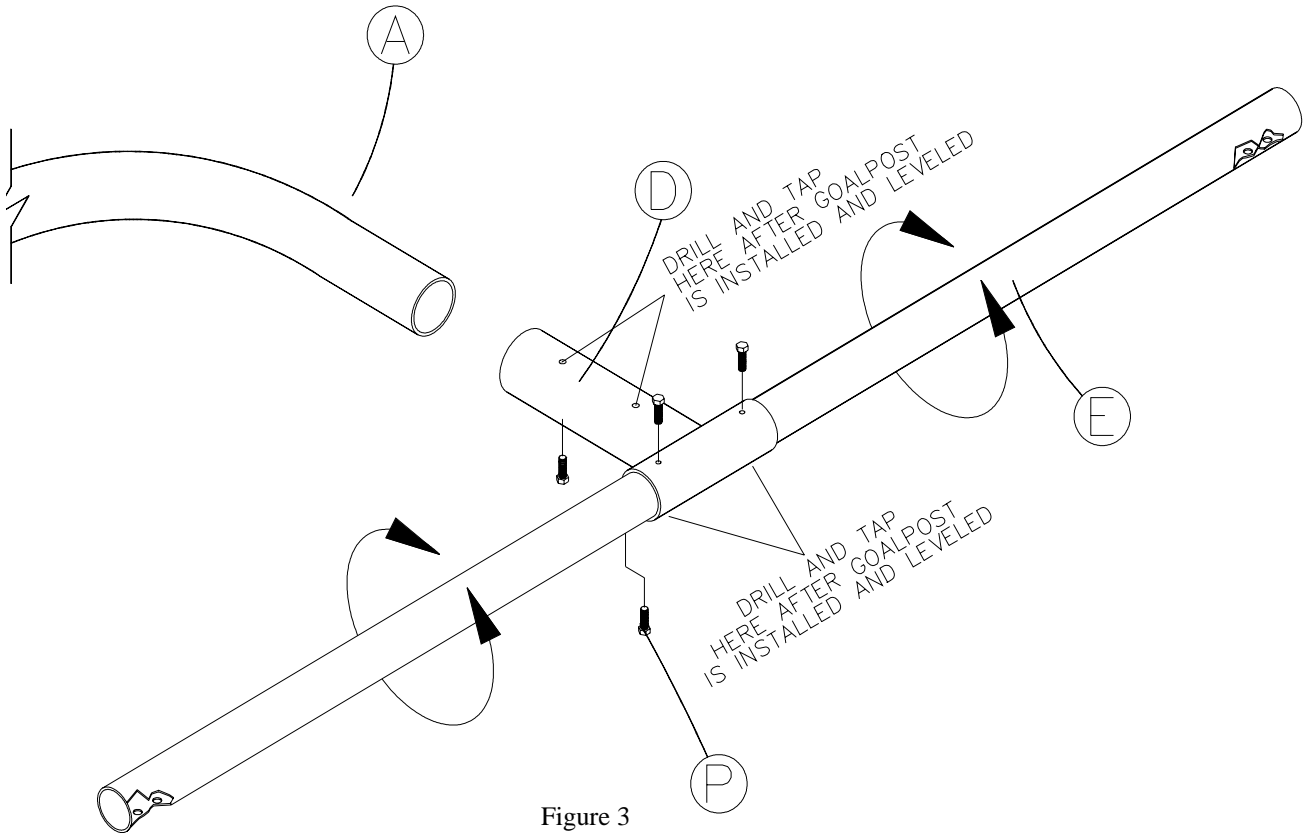

Figure 3
8. Slide “T” Adapter (D) onto Crossbar (E), and center on cross bar. Use caution not to damage the powder coated finish. Orient the “T” adapter in the center of the crossbar with the opening for the gooseneck pole 90° from the 2 drilled holes on each end of the crossbar and with both the threaded crossbar holes on the “T” adapter facing up. Once you have the “T” adapter and crossbar positioned in the approximate location tighten the crossbar using 3/8” - 16 x 1” Hex Bolts (P). See Figure 3.
9. It is recommended to use 4 people with sufficient height step ladders to hoist “T” adapter and crossbar assembly onto the end of the gooseneck pole. Make sure the “T” Adapter (D) is on the pole as far as it can go. Level the cross bar. Using the 3/8”X 1” Hex Bolts (P) tighten “T” adapter/crossbar assembly to the gooseneck pole. Make sure that the crossbar is level before hardware is tightened. See Figure 3.
15. Using a sharp $7/16''$ drill bit, drill through the four pre-drilled pilot holes in the "T" Adapter (D) and into the crossbar and gooseneck pole. Use a $1/2''$ -13 tap to thread the holes. These holes are indicated by removable labels. See Figures 3, & 5.
16. Use the $1/2'' \times 1''$ *Hex Bolts* (H) to attach the crossbar and the gooseneck pole to the "T" adapter assembly. See Figure 3.